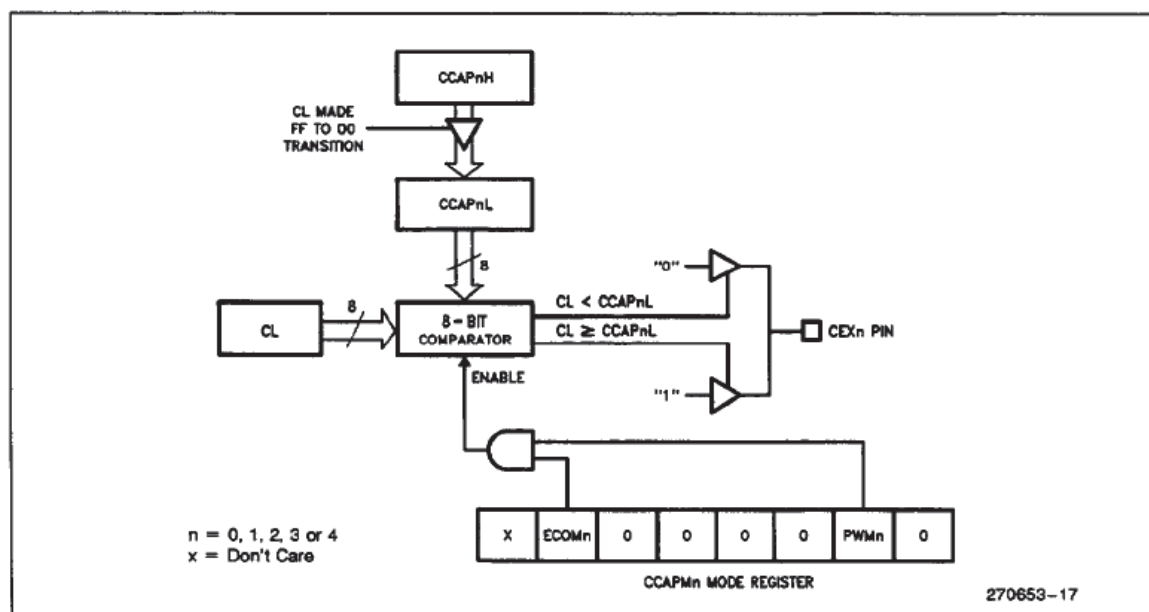

Figure 20. PCA 8-Bit PWM Mode
The PCA generates 8-bit PWMs by comparing the low byte of the PCA timer (CL) with the low byte of the module's compare registers (CCAPnL). Refer to Figure 20. When $CL < CCAPnL$ the output is low. When $CL \geq CCAPnL$ the output is high. The value in CCAPnL controls the duty cycle of the waveform. To change the value in CCAPnL without output glitches, the user must write to the high byte register (CCAPnH). This value is then shifted by hardware into CCAPnL when CL rolls over from 0FFH to 00H which corresponds to the next period of the output.